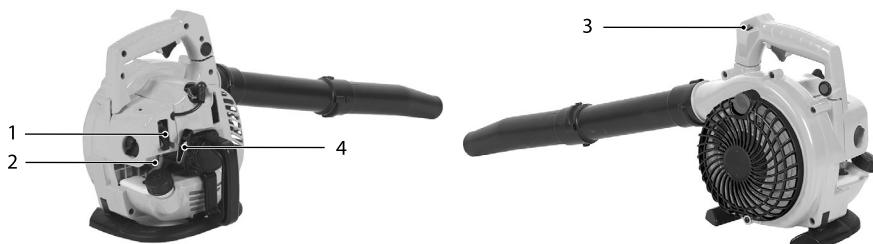

Fig. 5
3. Put the choke lever (1) in the CLOSED (up) position.
4. Press the primer bulb (2) at least 8 times or until you see fuel fill the bulb.
5. Turn the power switch (3) to the 'I' ON position.
6. Pull the recoil starter handle (4) until you feel resistance.
7. Once you feel resistance, pull the recoil starter handle swiftly upwards (4).
8. Repeat steps 6 & 7 until the machine starts (Fig.5).